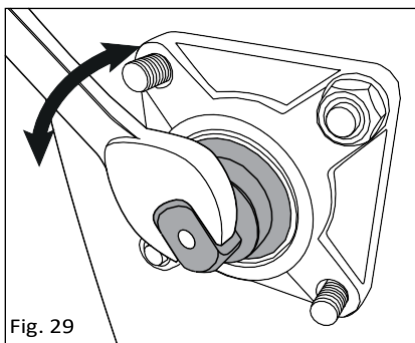

Fig. 29
4. Rotate the blade shaft as required using a 17mm spanner (not supplied) (fig. 29).